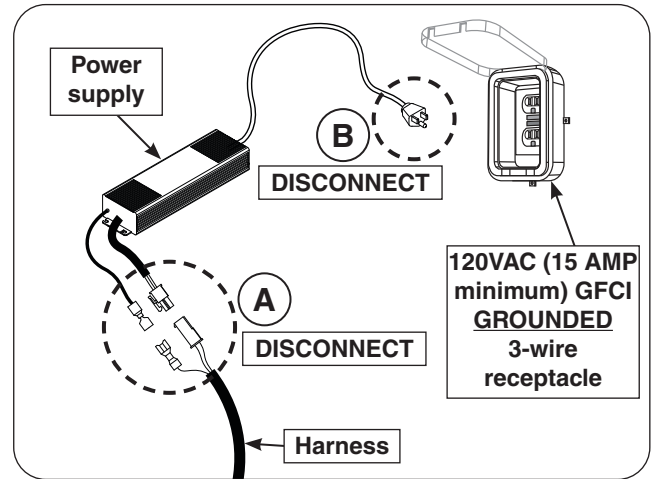

Fig. 36-1 Perform system reset
2. Disconnect the harness from the power supply (see Fig. 36-1, A).
3. Disconnect the power supply from the power source. (see Fig. 36-1, B).